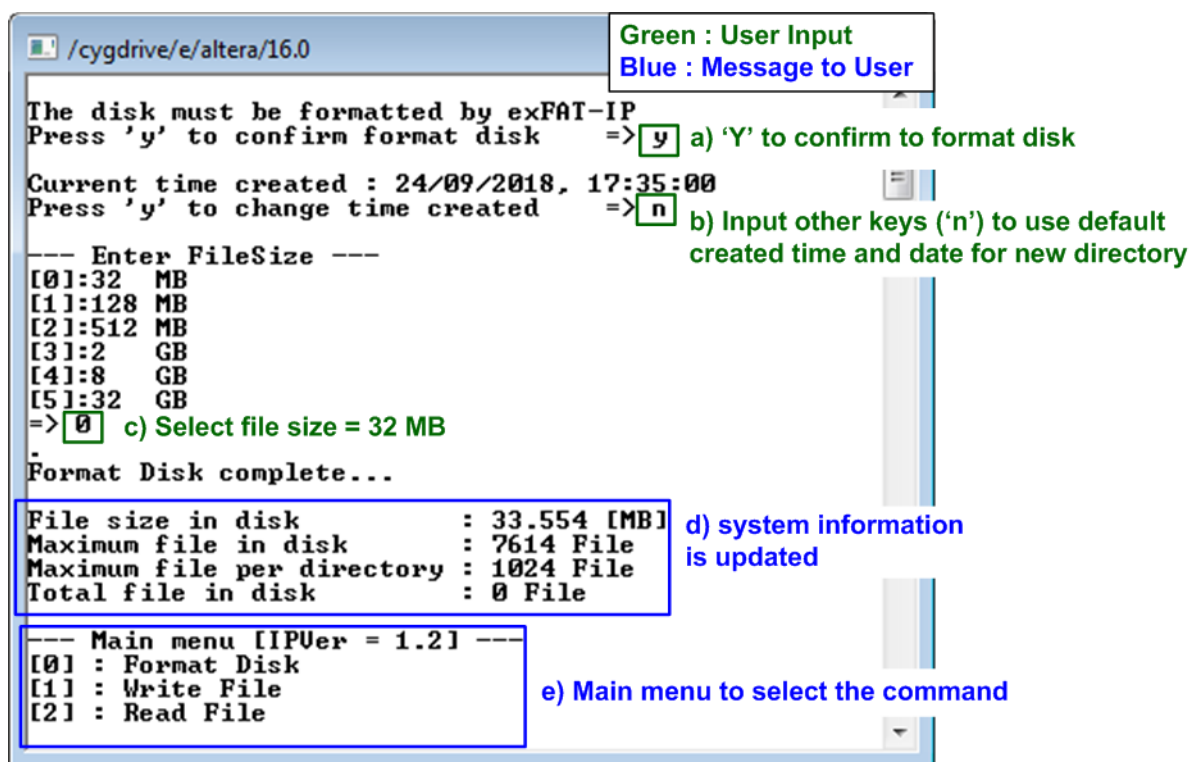
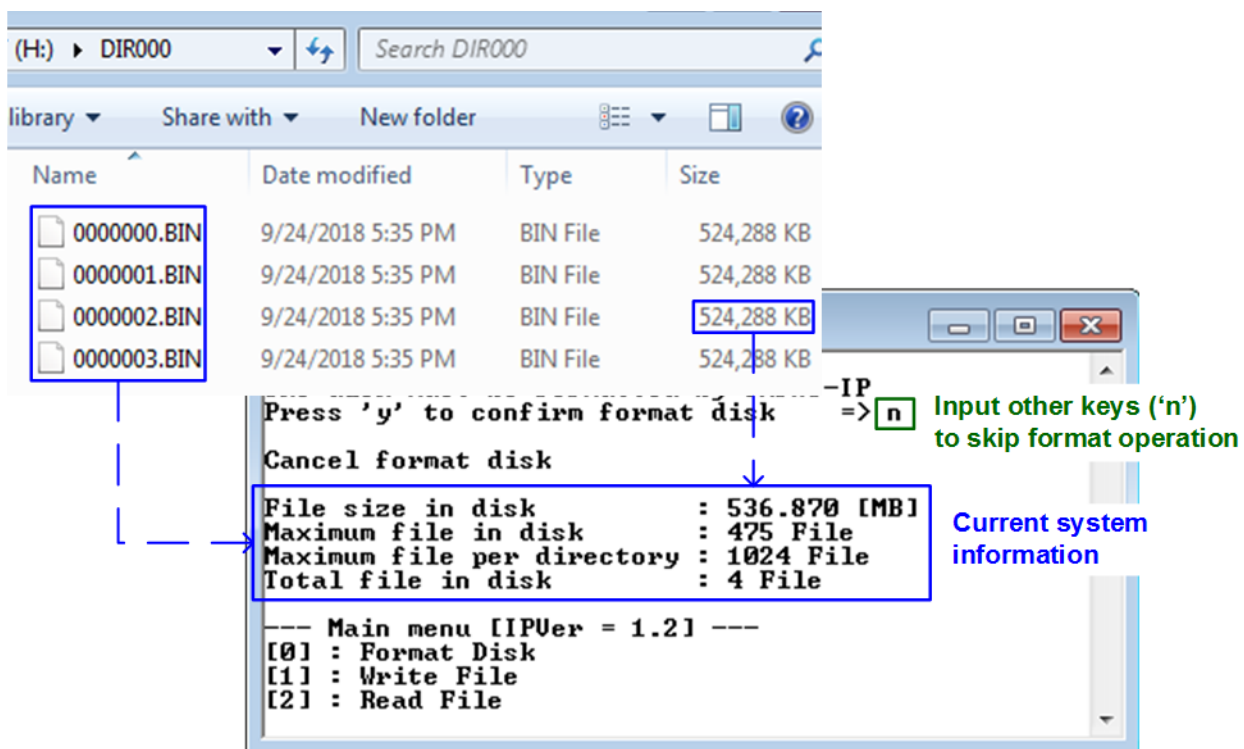

Figure 2-7 Initialization with format operation
Figure 2-8 Initialization without format operation
- Before running the test, “The disk must be formatted by exFAT-IP” is displayed. User input ‘y’ to format the disk when the disk is the new disk which has never been formatted by exFAT-IP. After running Format command, all data in the disk are deleted. The example to run Format command is shown in Figure 2-7 while the example to skip Format command is shown in Figure 2-8.